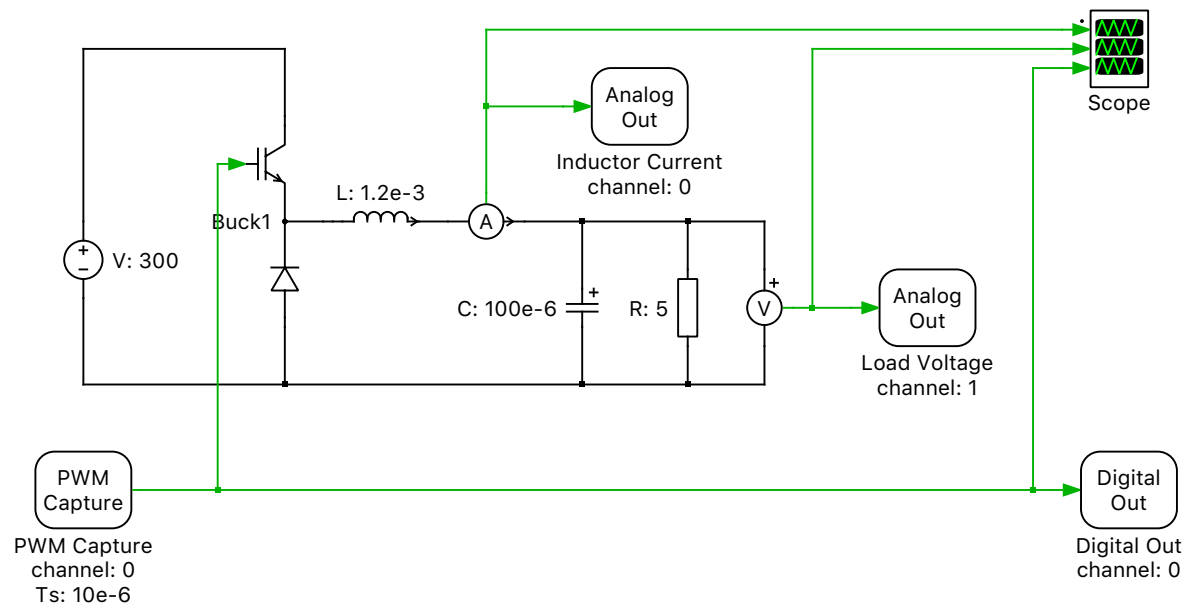

Figure 5: The “Plant” subsystem with PWM Capture and a hybrid power module
- Delete the Digital In component and replace it with a PWM Capture block from the RT Box Target Support library. Connect the output of the PWM Capture component to the switch gate signal. Confirm that the Averaging interval (offline only) parameter of the PWM Capture block matches the discretization time of $10e-6$ s. The output signal of the PWM Capture block should also be connected to the Scope and the Digital Out component for plotting. Refer to Figure 5.